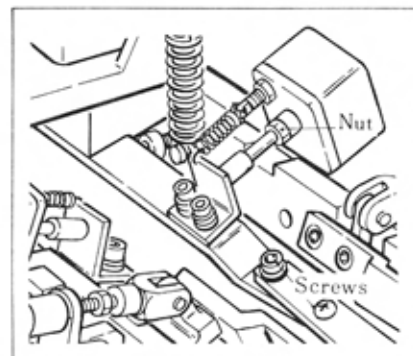

Figure 14
- Each brush arm has an adjustable stop to prevent the brush from hitting the lip on the forward edge of the clamp foot when the brushes open (see Figure 14).